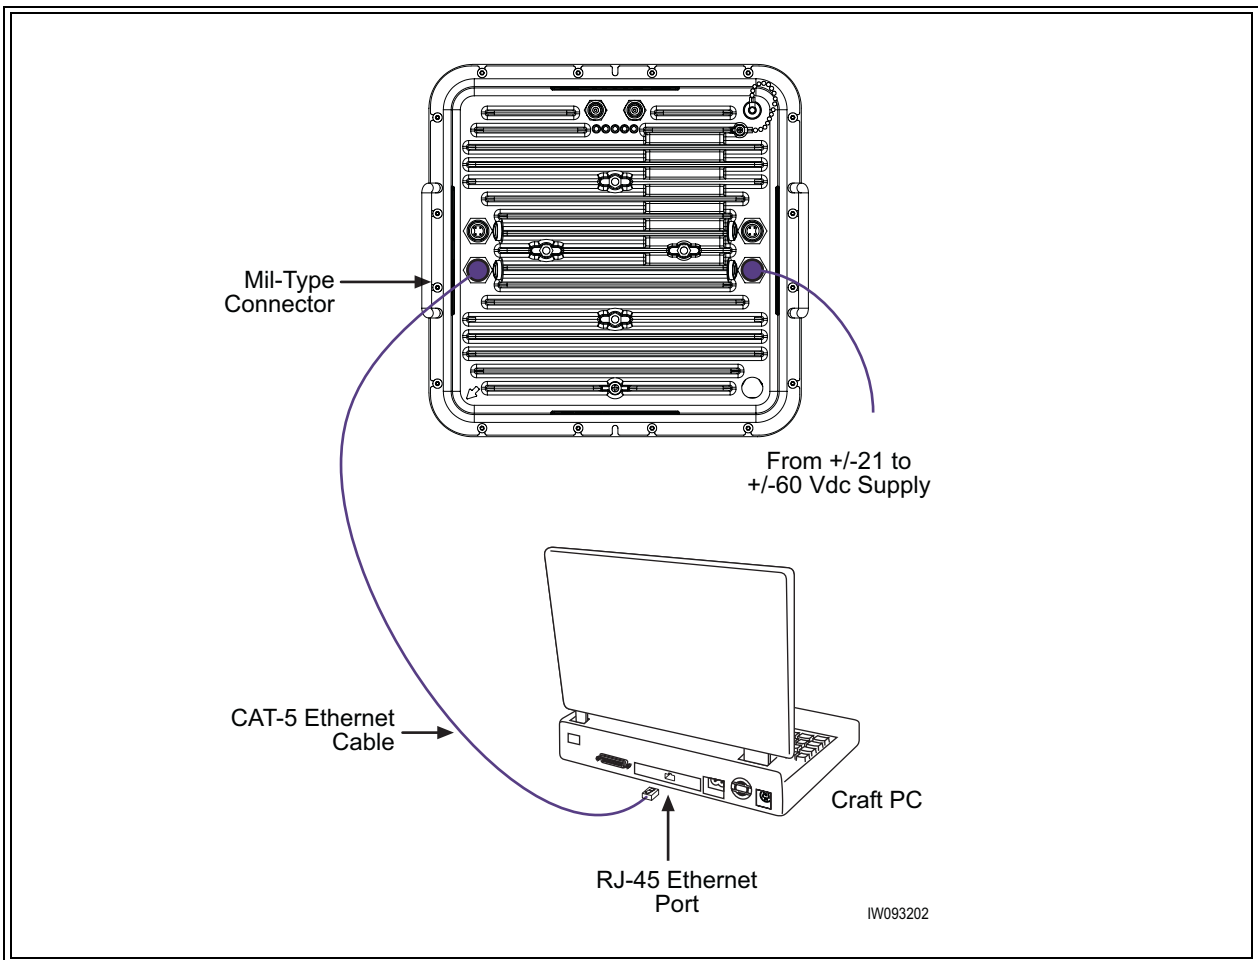

Figure 4-2 Link CX Configuration Setup
The equipment used to configure the Link CX is a Craft PC with 10/100 Ethernet port and cable, equipped with any current web browser and Adobe Acrobat Reader software. Figure 4-2 shows how to connect the Craft PC and power to the Link CX for initial configuration.
- 4 Using a factory-supplied ethernet cable, connect an Ethernet-port equipped Craft PC to the Link CX as shown in Figure 4-2.
- 6 Using a factory-supplied power cable, connect an external power supply to the Link CX as shown in Figure 4-2.